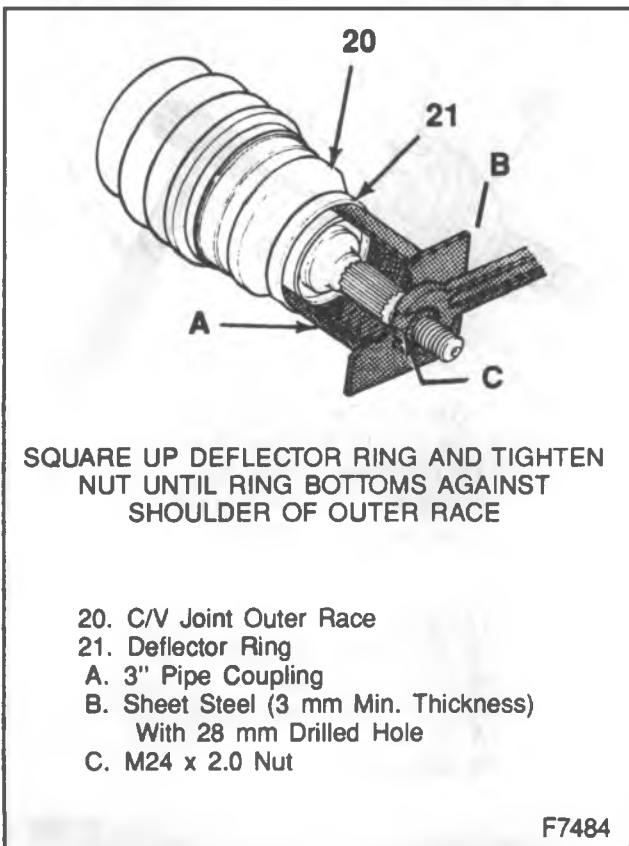

Figure 32—Installing Outer Deflector Ring
1. Position and square up deflecting ring (21) at press diameter of C/V outer race (20).
2. Using a 3" pipe coupling, M24x2.0 nut and fabricated sheet metal plate as shown in Figure 32, tighten nut until deflector (21) bottoms against shoulder of C/V outer race (20).